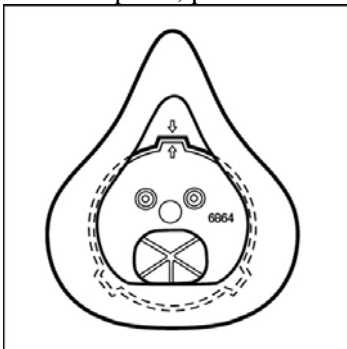

Fig. 13
2. To replace, position nose cup assembly onto center adapter aligning arrows. (Fig. 13)